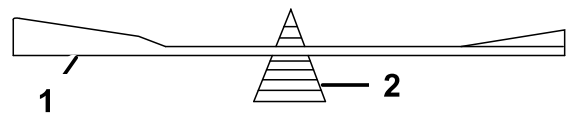

**Figure 78**
2. Check the balance of the blade by putting it on a blade balancer (Figure 78).